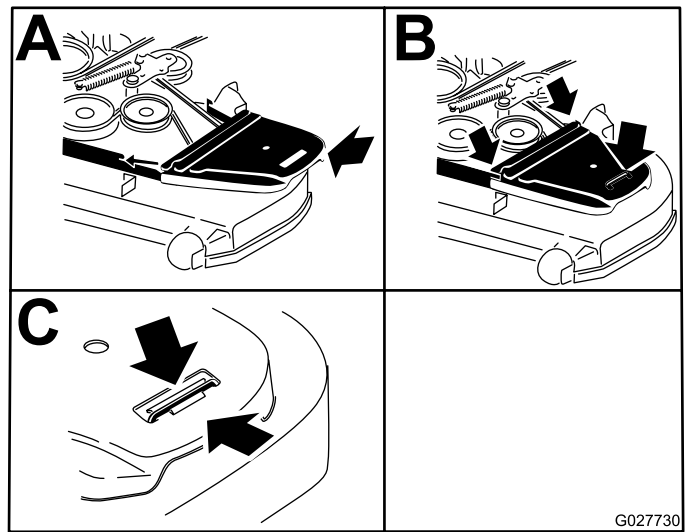

Figure 94
12. Install the belt covers; slide the belt cover under the side catches and ensure that the tab is under the metal catch (Figure 94).